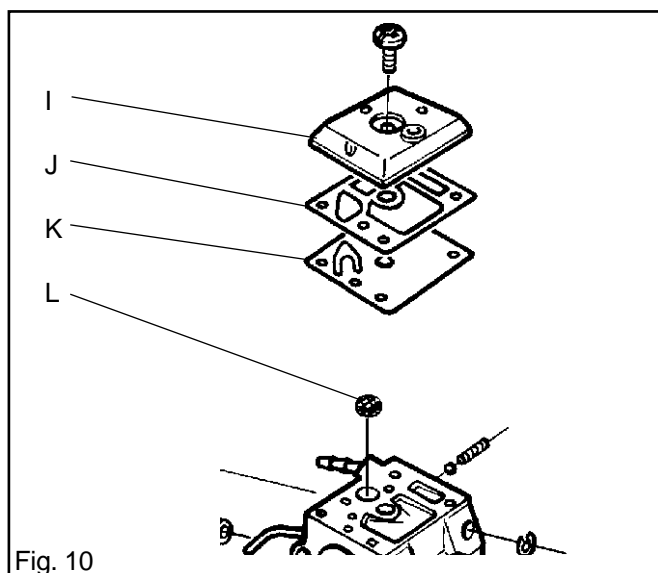

Fig. 10
9. Remove the cover (I) of the pump unit and carefully remove the gasket (J) and pump diaphragm (K). See fig. 10.
10. Using a needle or similar, carefully lift out the fuel filter (L). See fig. 10.
4. The fuel filter is undamaged. See L in fig. 10.